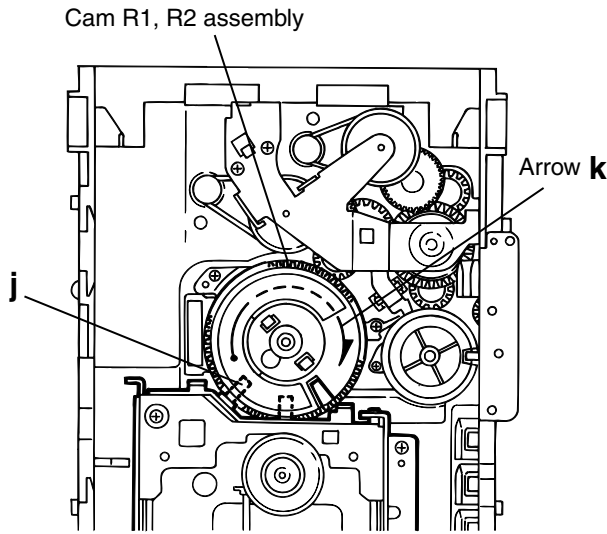

Fig.11
Removing the CD traverse mechanism (See Fig.11 and 12)
1. For dismantling only the CD traverse mechanism without removing the CD loading mechanism assembly, align the shaft "j" of the CD loading mechanism assembly to the position shown Fig.11 while turning the cam R1 and R2 assembly in the arrow direction "k" .